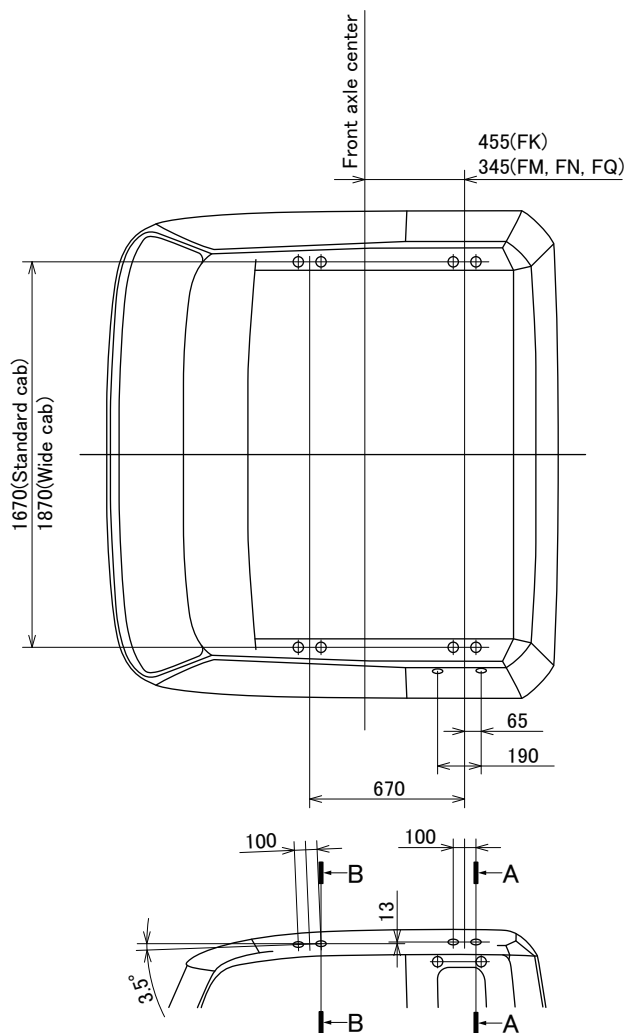

Fig. 1
- When attaching externally mounted parts such as roof deck or drag foiler onto the roof, use the exclusive mounting holes provided on the roof. (See Figs. 1, 2 and 3.)
- On the upper part of the rear quarter garnish or side window glass panel, welded nuts are provided on the body for mounting a ladder. To attach an externally mounted part, remove the clips from the nuts and fit the part with M8 bolts. (See Figs. 1, 2 and 3.)